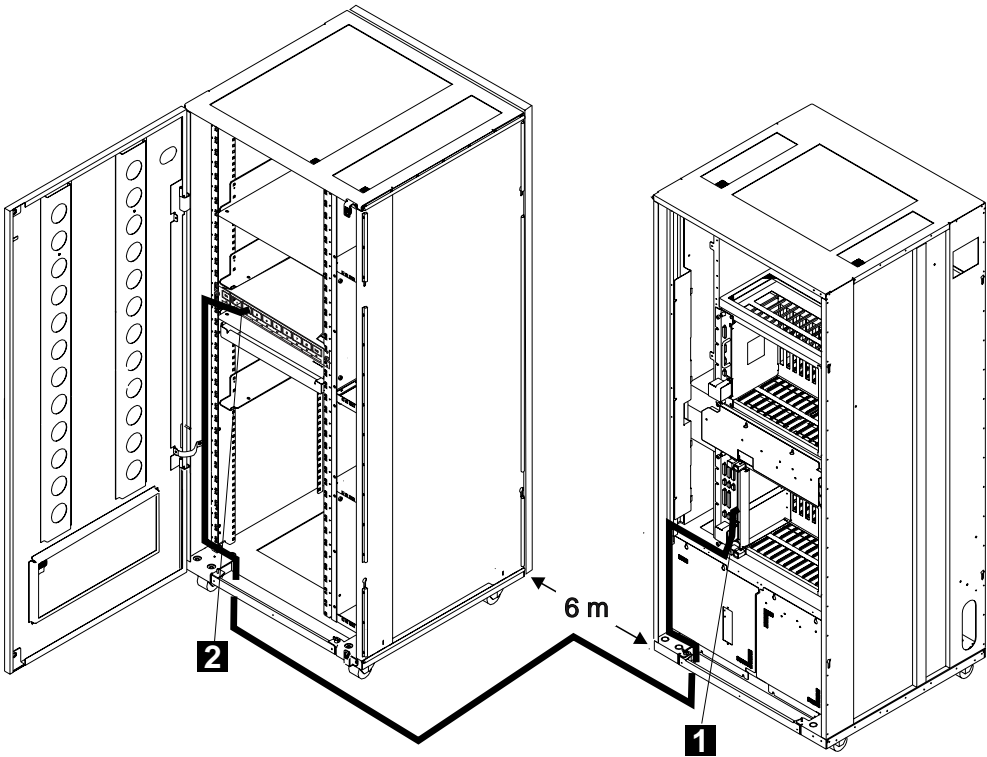

Figure 2-32. Connection of the 3746-950 to the 8228 (Controller Expansion Detached)
- **Detached** from the controller expansion frame, refer to Figure 2-32 on page 2-29